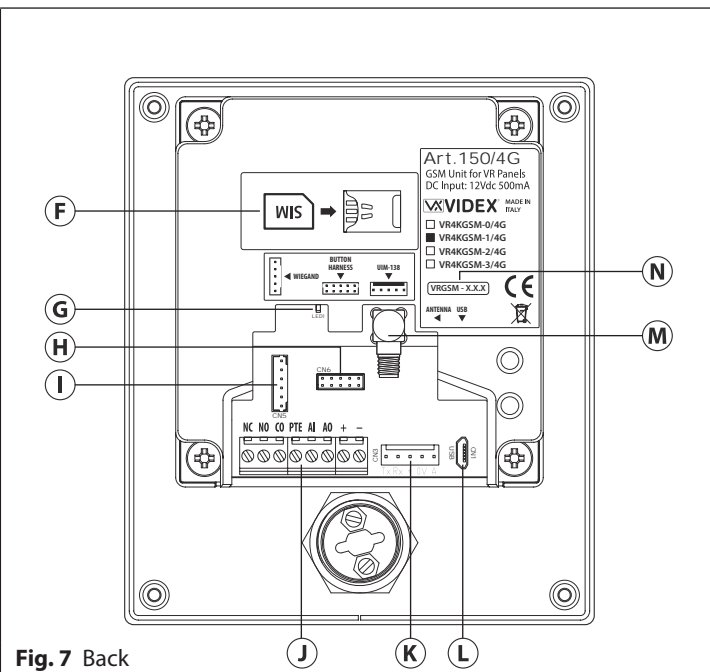

Fig. 7 Back
The micro-USB connection (**Fig.7**, ⓓ) allows the **VR4KGSM/4G** module to be connected to a laptop/PC for ease of programming (refer to page 24 for connecting the GSM module to a laptop/PC). Further information on programming using the GSM SK PC software can be found in the following manual **GSM SK\_66251720-EN\_V2-2** (or later).
The UIM-138 connection (**Fig.7**, ⓔ) allows the **VR4KGSM/4G** module to be connected to the display interface module, the **VR4KDM**, see **Fig.14**, page 18 for connecting the GSM module to a **VR4KDM** module.
The Wiegand connection (**Fig.7, ①**) allows for a Wiegand proximity reader, the **VR4KPPM**, to be connected to the **VR4KGSM/4G** module, see **Fig.16**, page 19. Further information on programming proximity fobs/cards can be found on pages 46 - 48 of this manual.
The button harness connection (**Fig.7, ②**) allows for the pre-wired button harness to be connected directly to any onboard VR buttons on the **VR4KGSM/4G** module and/or **VR4K series** button modules (described on pages 6 and 7). For complete button harness wiring refer to **Fig.3** and the button harness table on page 7.